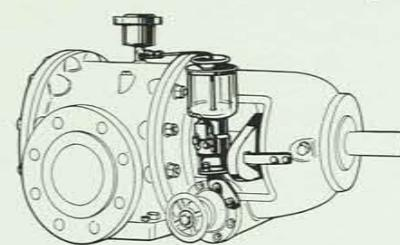

fig. 8
- forced lubrication, with auxiliary pump driven by the pump shaft, for pumping non-lubricant liquids at high pressures or during prolonged dry running of the pump (fig. 8)